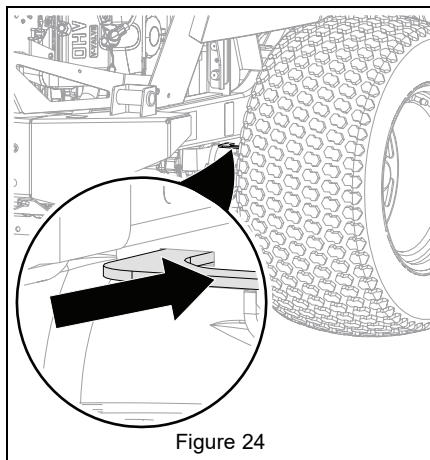

Figure 24
5. Return transaxle bypass levers to operating position. See Figure 24.